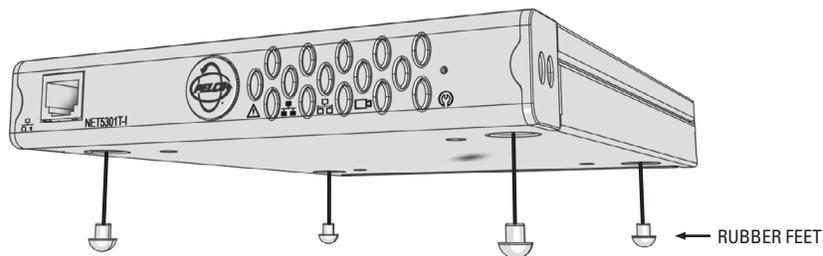

Figure 4. Attaching Rubber Feet for Desktop Placement
1. Attach the rubber feet to the bottom of the unit to prevent surface damage (refer to Figure 4).